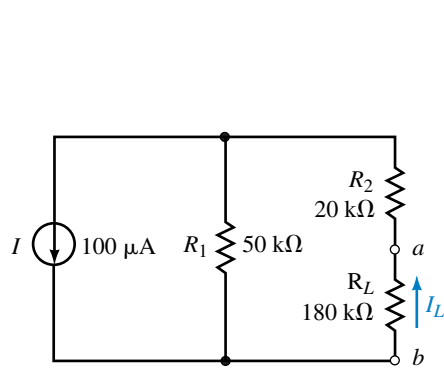

FIGURE 9-84
10. Repeat Problem 7 for the circuit of Figure 9-84.